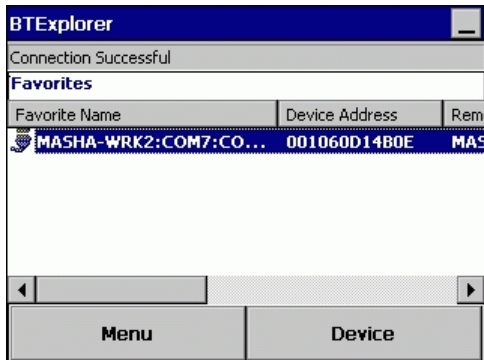

Figure 2-128 *New Connection Wizard, Favorites Screen*
2. Select *BTE Explorer*. If a previous connection was established, the Favorites window displays (see Figure 2-128 on page 2-97).
- On the *Favorites* window (Figure 2-128), use the keypad and select *Device > Settings > Services*.
Open the *BTEplorer* application to display the *Favorites* window (Figure 2-128).
On the *Favorites* window (Figure 2-128), use the keypad and select *Device > Settings > Device Info*.
On the *Favorites* window (Figure 2-128), use the keypad and select *Device > Settings > Security*.
On the *Favorites* window (Figure 2-128), use the keypad and select *Device > Settings > Discovery*.
On the *Favorites* window (Figure 2-128), use the keypad and select *Device > Settings > Virtual COM Port*.
On the *Favorites* window (Figure 2-128), use the keypad and select *Device > Settings > Profiles*.